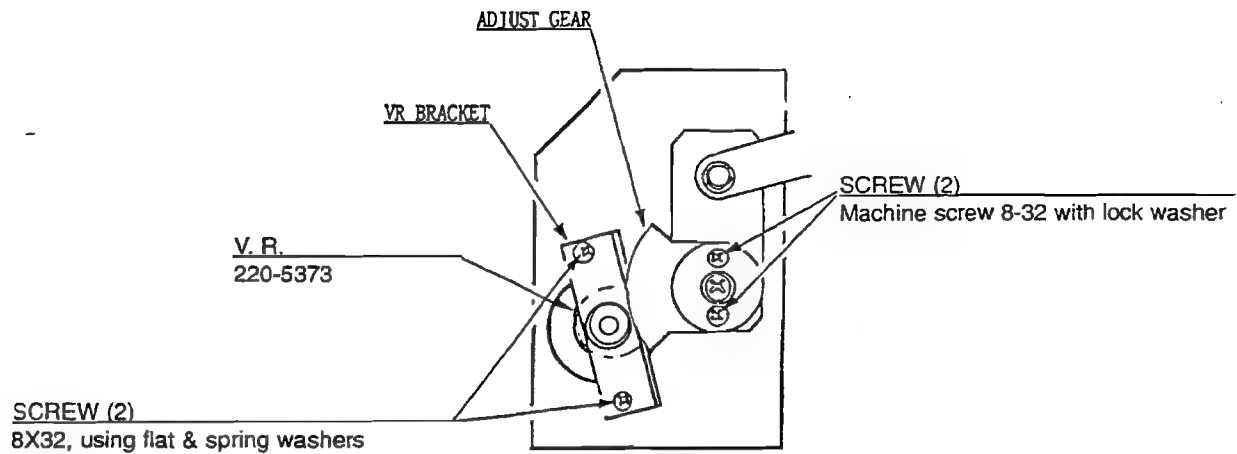

FIGURE 59: ACCELERATOR AND BRAKE ASSEMBLY
3. Loosen the two screws which secure the potentiometer (V.R.) bracket (see Figure 59).